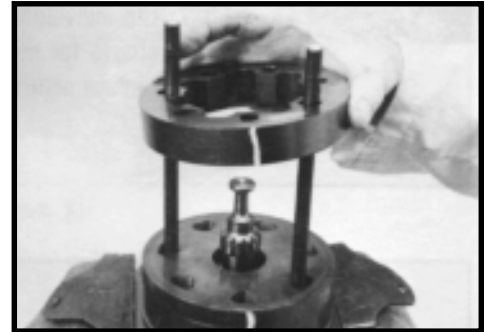

Figure 70
Assemble stator 1. Place stator (8B) onto wear plate (9) with seal ring (4) side down, after following Torqlink™ assembly procedures 1 through 13. Be sure the seal ring is in place. SEE FIGURE 70.